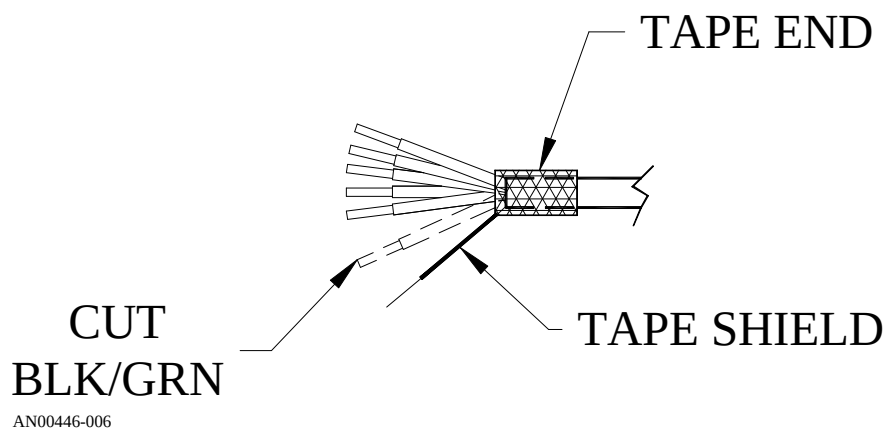

Figure 5b – Wire Preparation Detail, Base Unit End
5. Prepare the end of the cable as per *figure 5b* on the following page. Ensure that the shield is fully insulated until the point where it enters the terminal. No part of the shield should be allowed to come in contact with the circuit board, equipment case, or any other surface.